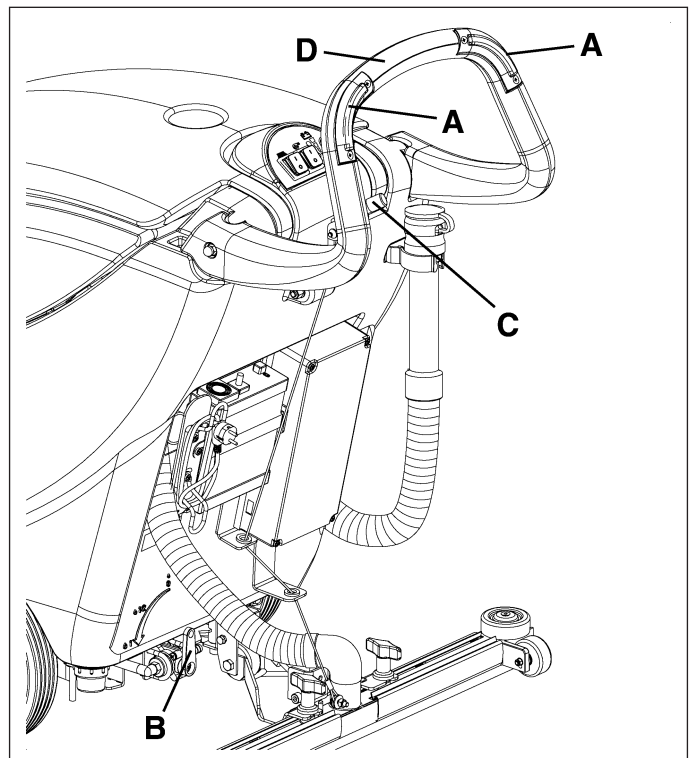

Figure 18
2. While keeping both hands on the handlebar (D, Fig. 18), move the machine and start scrubbing/drying the floor.
*To avoid damaging the floor surface: Do not use the brush/pad without the solution. When the machine is stopped, stop the brush/pad by releasing the switches (A, Fig. 18).*
*Before lifting the brush/pad, stop its rotation by releasing the switches (A, Fig. 18).*
3. If necessary, adjust the solution flow sent to the brush/pad by turning the lever (B, Fig. 18).
2. Lift the squeegee by pushing the lever (C, Fig. 18) upwards.